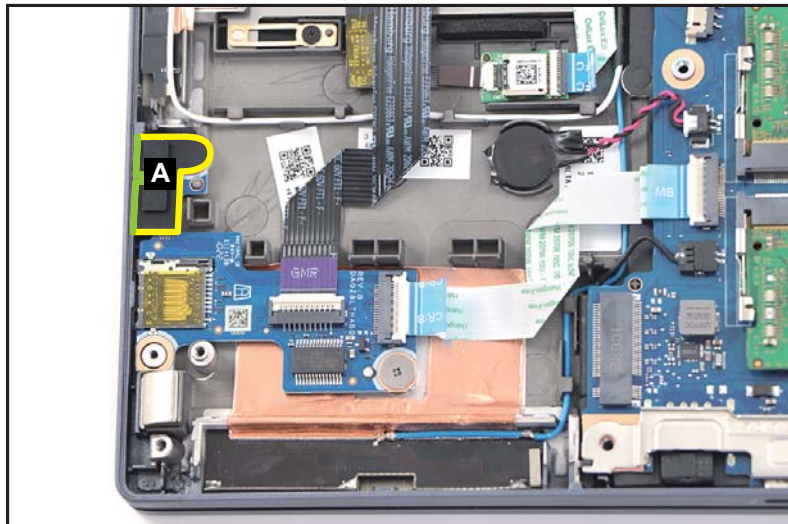

Figure 1-31. Card Reader Board Removal
1. Detach the sponge (A) from the card reader board (Figure 1-31).